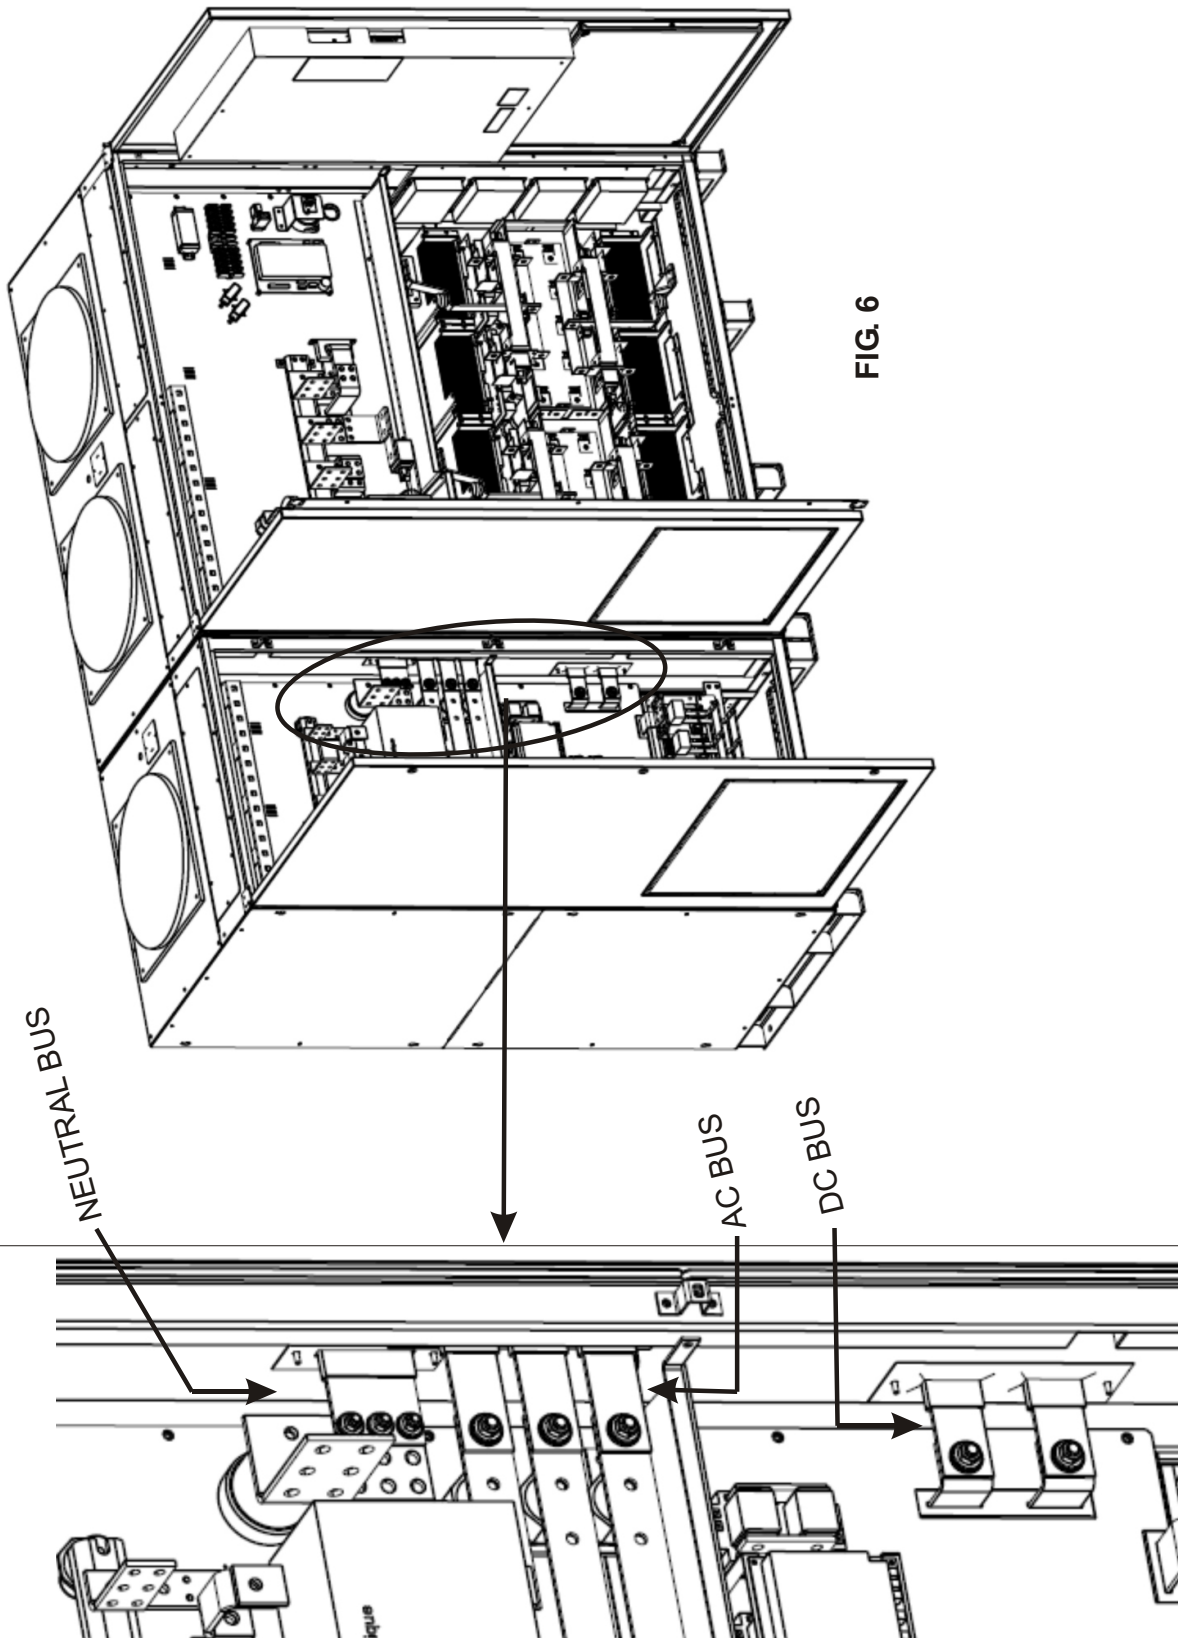

FIG. 6
5. On Output cabinet: Open the door. Insert Neutral bus between the cabinets as shown in FIG. 5 & FIG. 6 and connect on corresponding output and input cabinet neutral bus using 3/8-16X1.25" bolt, flat, belleville washer and nut (supplied).
6. Insert AC Bus (qty. 3) between the cabinets as shown in FIG. 5 & FIG. 6 and connect on corresponding output and input cabinet AC bus using 1/2-13X1.25" bolt, flat, belleville washer and nut (supplied).
7. Insert DC Bus (qty. 2) between the cabinets as shown in FIG. 5 & FIG. 6 and connect on corresponding output and input cabinet DC bus using 1/2-13X1.25" bolt, flat, belleville washer and nut (supplied).
8. Connect the Control plug/connector (male) located in input cabinet to the mating connector (female) in the output cabinet thru conduit plate in the side panels. See FIG. 5 & FIG. 6.